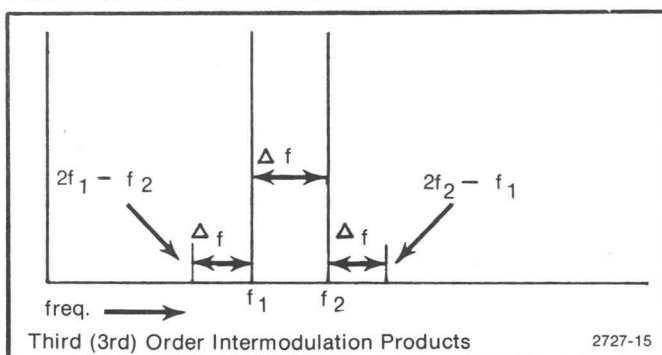

Fig. 3-14. Intermodulation products.
d. Check third order intermodulation products (see Fig. 3-14). Ensure that third order products are -70 dB or more down from the input signal level.